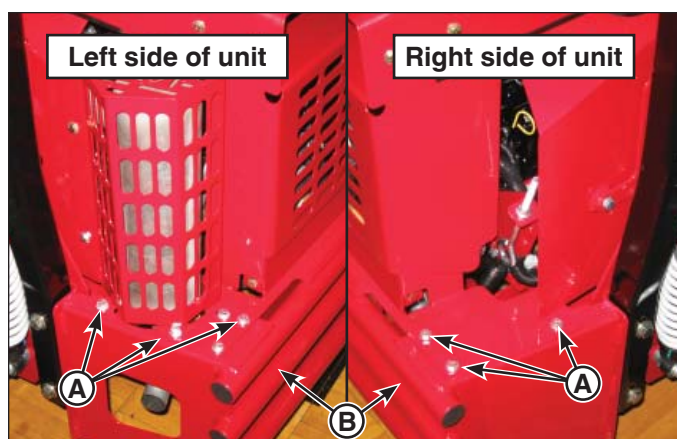

Figure 2. Removing the Hood Assembly
2. Remove the six (6) 5/16-18 X 3/4 bolts, 5/16 gr. 9 washers and 5/16-18 nylon flange nuts (**A**, **Figure 2**) that secure the hood assembly to the bumper.